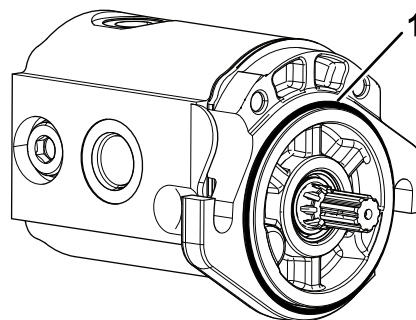

Figure 6
5. Install the O-ring on the reel motor (Figure 6).